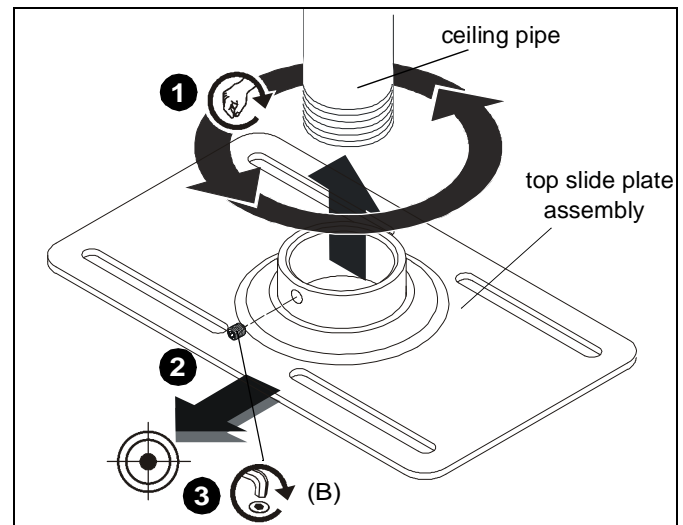

Figure 7
1. Thread top slide plate assembly onto ceiling pipe until it cannot be tightened any further. (See Figure 7)
2. Adjust top slide plate assembly back clockwise until set screw hole is facing target. (See Figure 7)
3. Insert 5/16-18 x 1/4" set screw (B) into access hole to secure top slide plate to ceiling pipe. (See Figure 7)